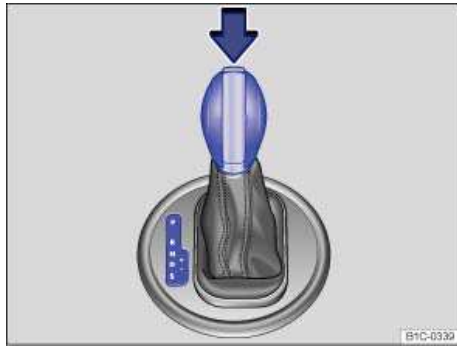

Fig. 118 Automatic transmission selector lever with shift lever release button (arrow).
Automatic transmission vehicles have an Automatic Shift Lock (ASL). With ASL, you must depress the brake pedal and hold it down while pressing the release button on the selector lever handle in the direction of the arrow → fig. 118 in order to move the selector lever out of Park (P) and into a drive gear. When the selector lever is in Neutral (N), you also have to depress the brake pedal before you can move the selector lever to Drive (D), Sport Drive (S), or Reverse (R).